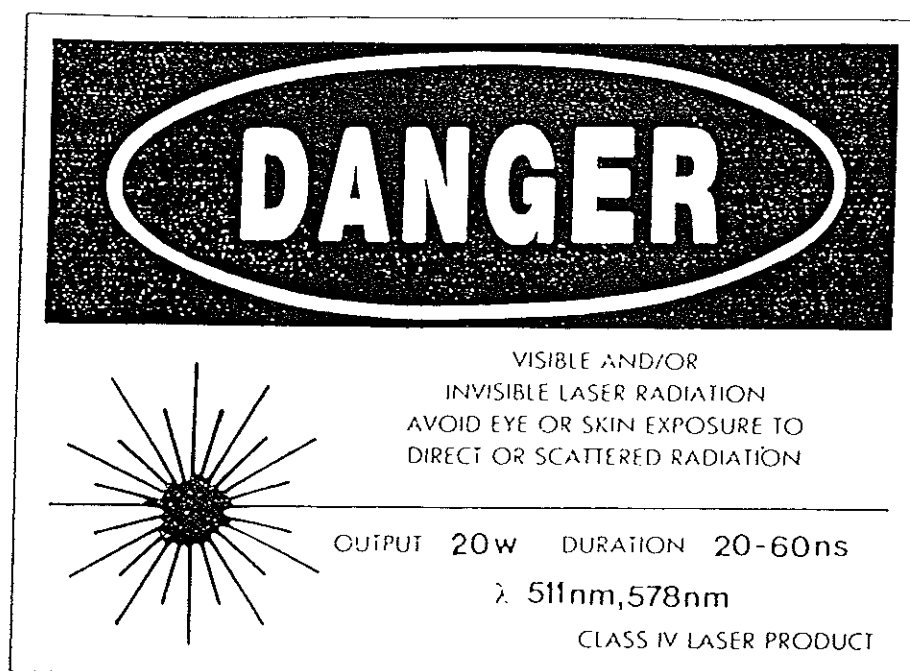
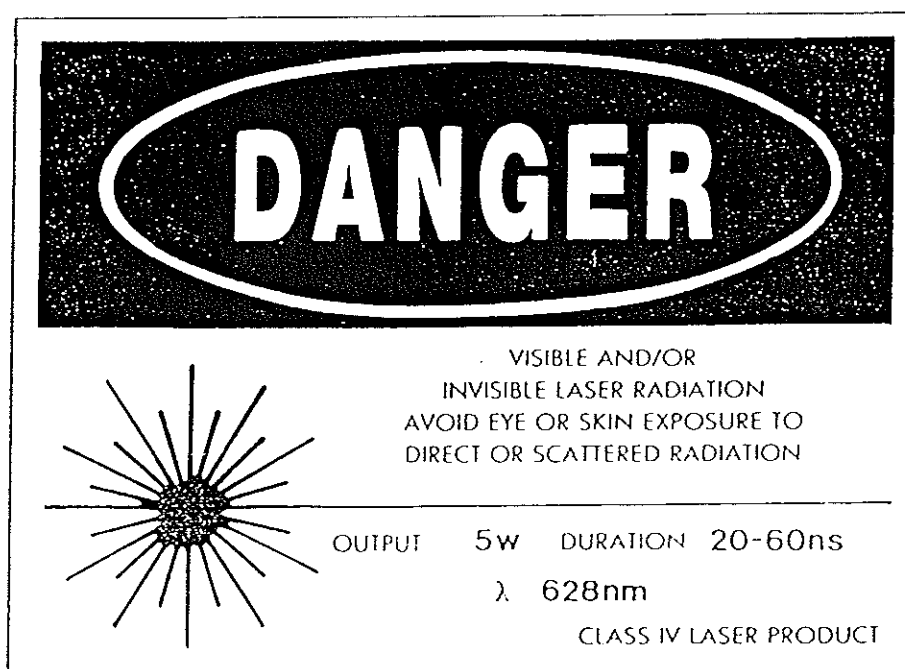

Figure 2.1 Models CU10-A and CU15-A warning label (USA)
Figure 2.2 Model AU2-A Warning Label (USA)
- (1) **KEY CONTROL:** The instrument cannot be turned on until the KEY SWITCH has been activated. Its operation and function are described in Section 4.1. The instrument cannot be operated unless the key is in place in the locked switch. In addition to these requirements, an EMERGENCY STOP SWITCH is fitted to the front of the power supply unit (PSU). This switch cuts all power to the unit beyond the contactor relay.
- (2) **LASER RADIATION EMISSION INDICATOR:** The appropriately labelled indicators on both the PSU and the laser head will light as soon as the power supply is connected. Laser emission is not possible unless the power supply is connected. The indicators are described in Section 4.1. White lights are used to ensure that they are always visible regardless of the type of safety glasses worn.
- (3) **PROTECTIVE HOUSING:** The laser beam path is enclosed by covers inside the laser head case. The case lid must be removed to reach the beam path covers. The beam path covers form the protective housing which prevents human access to radiation in excess of the limits of Class I as specified in the Federal Register, July 31, 1975, part II, Section 1040.10 (f) (1) and Table 1-A.
- (4) **WARNING LABELS:** On the laser head case, at the opposite end to that from which laser output occurs, is a Class IV warning label. The label shown in Figure 2.1 applies to the copper vapour lasers (CU10-A and CU15-A). That shown in Figure 2.2 applies to the gold vapour laser (AU2-A).